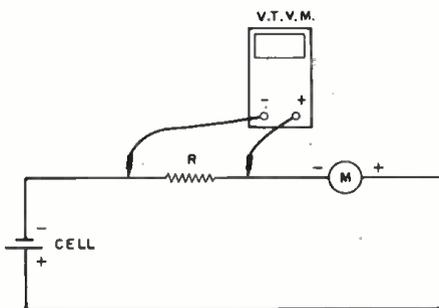

Fig. 2. Voltage reading across a known series resistor and quick calculation can be used to determine full-scale current.
Start with the highest-value resistor (R) and a single cell placed in series with the meter, as shown in Fig. 2. If the meter terminals are marked as to polarity, be sure to connect accordingly. If
Note the mark and determine its fraction of full scale. In other words, if there are 100 divisions on the scale and the pointer is resting on the twentieth, the fraction would be $\frac{2}{100}$, or $\frac{1}{50}$ of full-scale reading. Leave the meter connected and use a v.t.v.m., as shown in Fig. 2, to measure the voltage drop across the resistor. Since this drop will be small in most cases, take care to zero the v.t.v.m. properly and use the lowest available voltage scale that will give a substantial reading to insure accurate measurement.